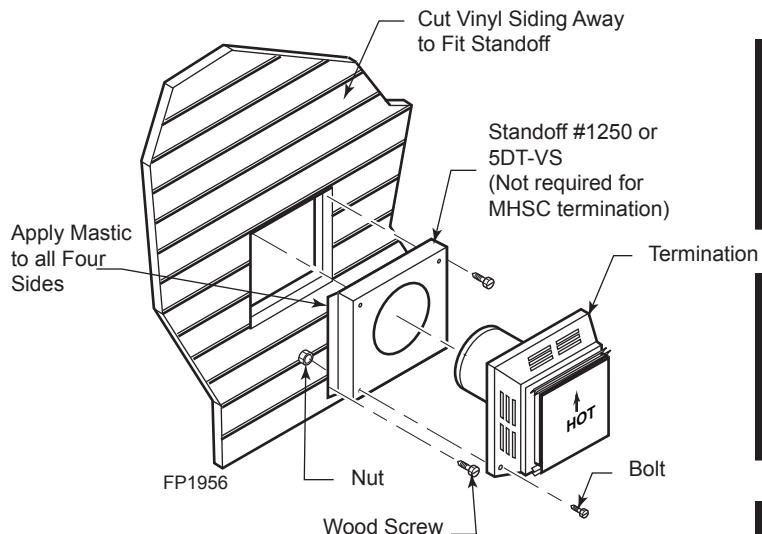

Figure 23 -
For vinyl siding, stucco or wood exterior, use vinyl siding standoffs between vent cap and exterior wall for Simpson or Selkirk Terminations only. The vinyl siding standoff prevents excessive heat from melting the vinyl siding material. **NOTE:** MHSC Termination does not require standoff. Bolt the vent cap to the standoff or wall. Apply non-hardening mastic around outside edge of the standoff instead of the vent cap assembly. Use wood screws provided to attach the standoff. *Figure 23*
- If a 90° elbow is used in the horizontal vent run (level height maintained) the horizontal vent length is reduced by 36". *Figure 23*. This does not apply if the 90° elbows are used to increase or redirect a vertical rise. *Figure 27*